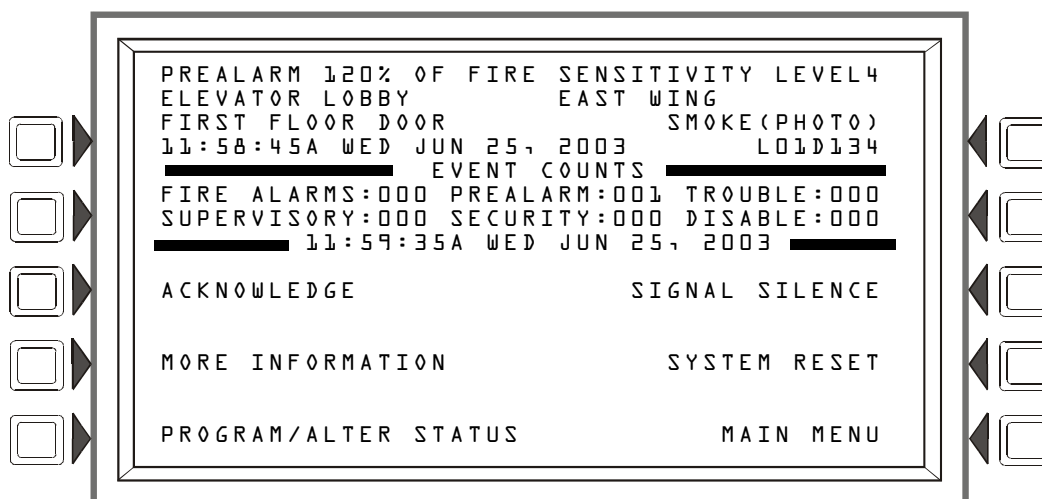

Figure 2.5 Sample Pre-alarm Message
- Displays PREALARM in the upper left corner of the LCD, as well as the sensitivity reading, the type code and other information specific to the detector as shown in Figure 2.5.